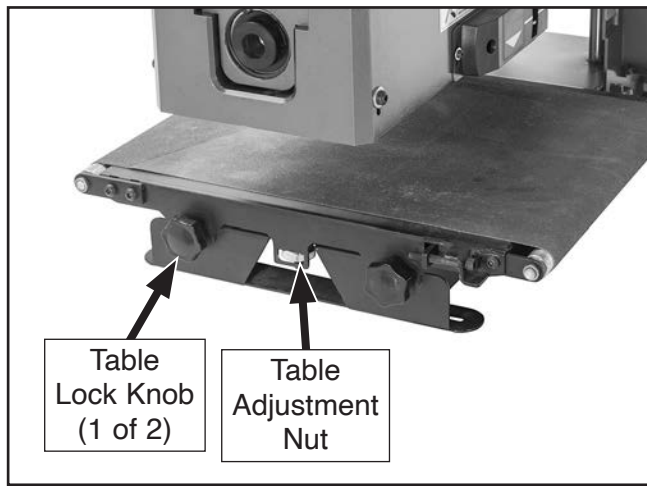

Figure 46. Location of table lock knobs and adjustment nut.
7. Loosen table lock knobs shown in **Figure 46**.
8. Adjust nut shown in **Figure 46** to raise or lower left side of table, repeating **Steps 5–6** to test adjustment until difference between sides is 0.010" or less.